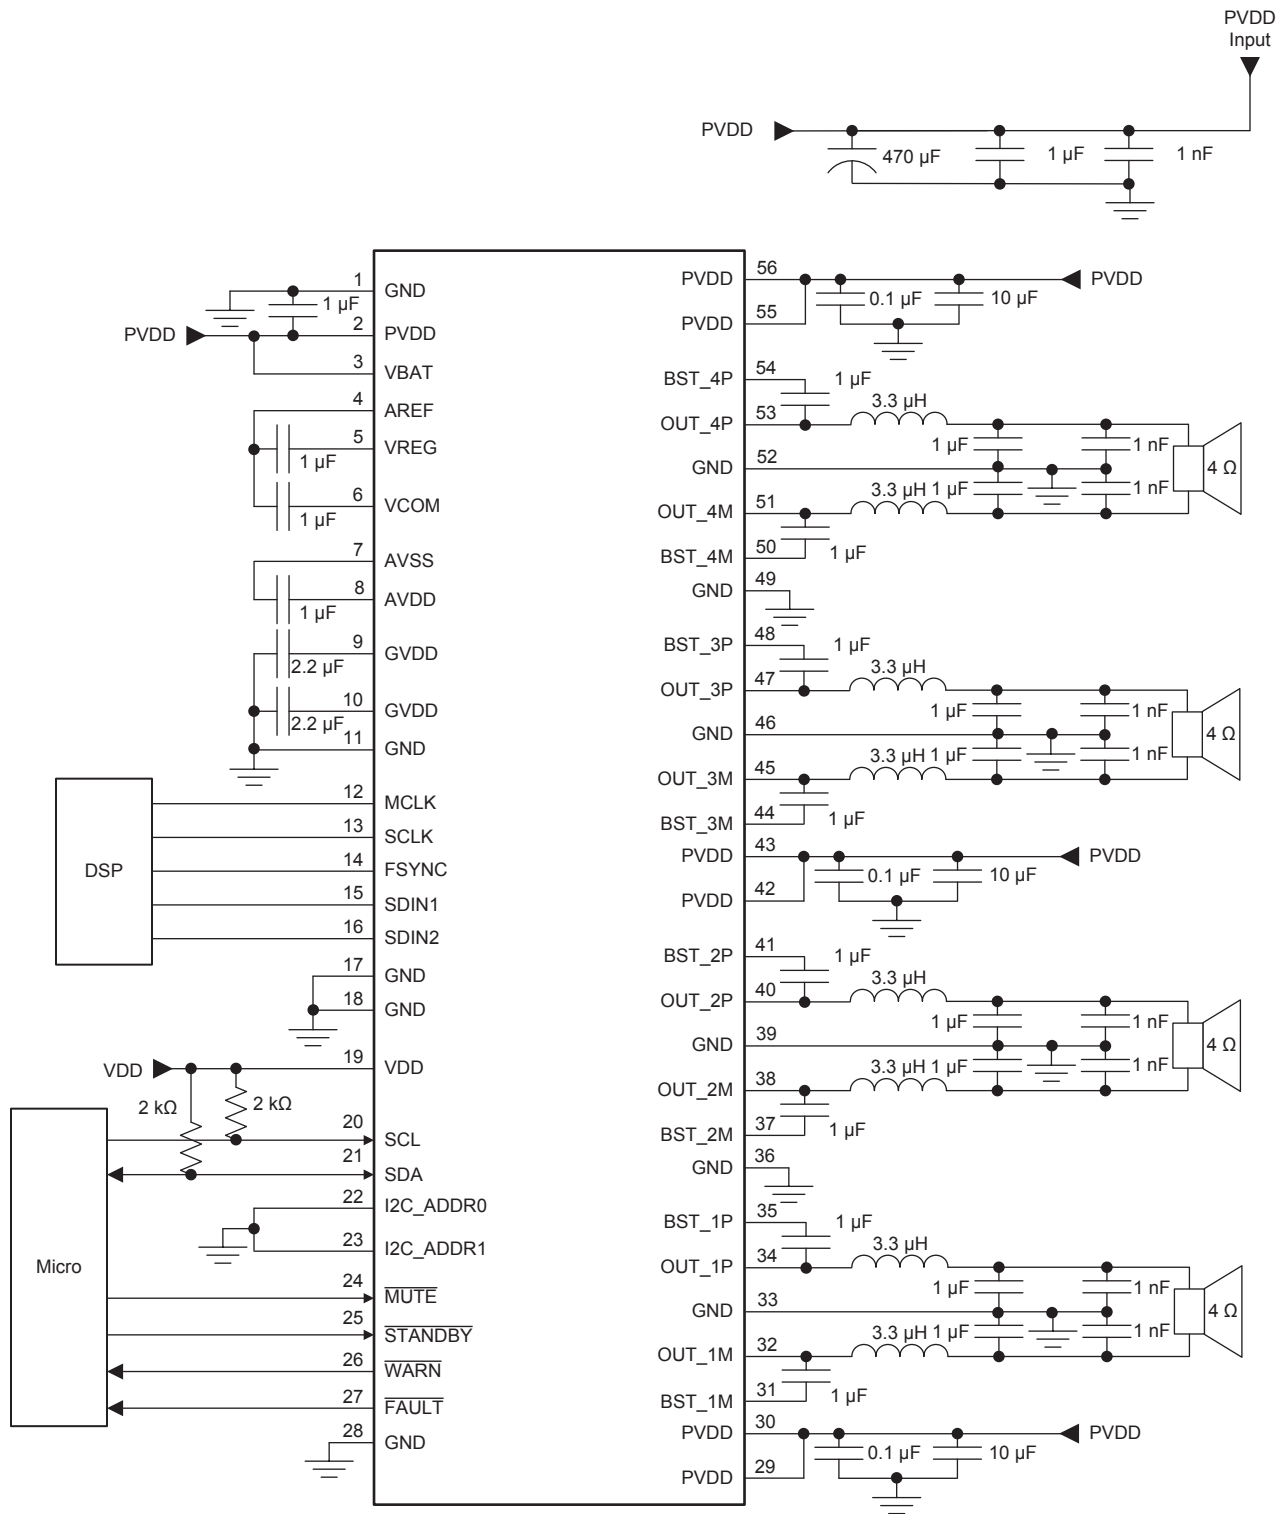

Figure 79. Typical 4-Channel BTL Application Schematic
Figure 79 shows the schematic of a typical 4-channel solution for a head-unit application.
- With the requirements, adjust the typical application schematic in Figure 79 for the input connections.